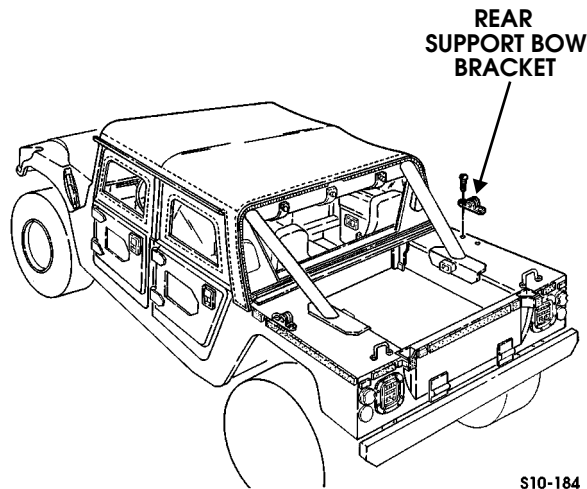

Figure 10-119: Rear Support Bow Bracket Replacement
2. Remove two screws and support bow bracket from body (Figure 10-119).
1. Secure bracket to body with two screws (Figure 10-119).